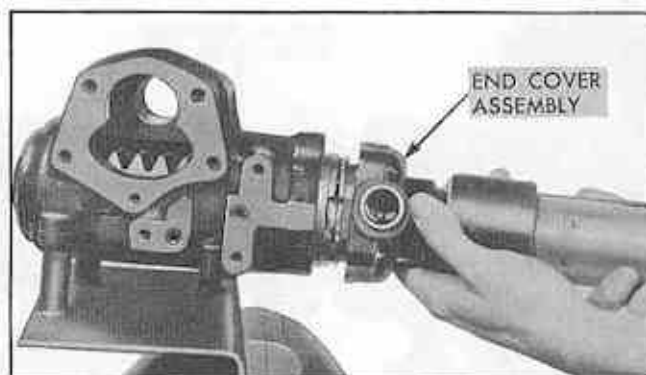

Fig. 61 Removing End Cover from Gear Housing
1. Remove end cover retaining screws and pull cover and housing assembly off gear housing (Fig. 61).